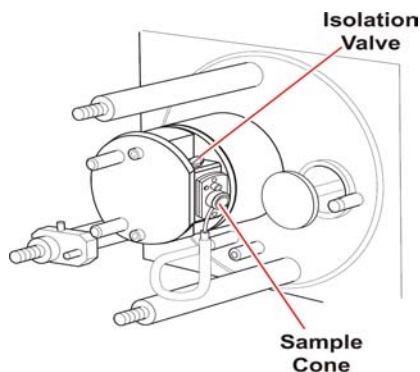

Figure 10-3 The Source, With Housing Removed
*The isolation valve (Figure 10-3) is closed when the slot is perpendicular to the direction of flow.*